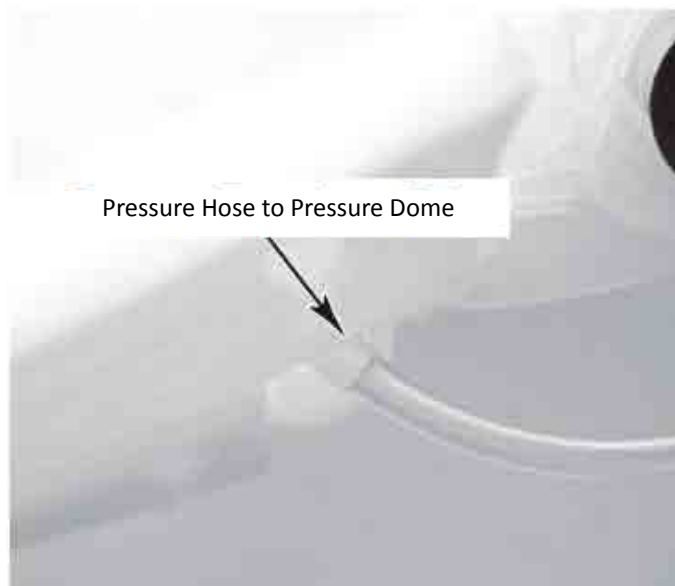

Figure 2
5. Check hose connection between the pressure transducer on the main control (Figure 1) and the pressure dome attached to the tub (Figure 2).